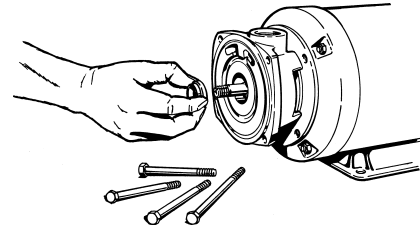

Figure 4-14
- e. Holding the head assembly between the thumb and index finger with the sealing face pointing toward the stationary seat, slide the assembly over the motor shaft until it rests against the seat. Refer to Figure 4-14. A slight twisting motion will allow the assembly to slide more easily.